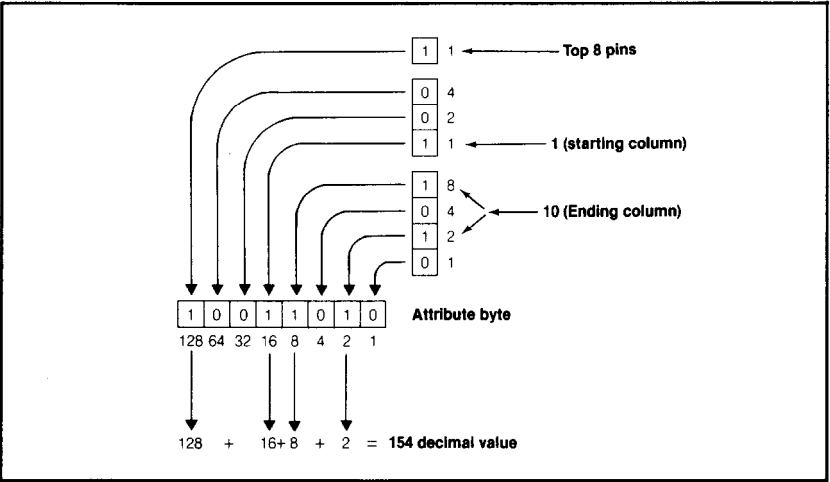

Figure 15-5. Attribute byte conversions
Suppose you want a character to start in column 1 and end in column 10. How do you put this information into the attribute byte? The starting column number (1) is converted to a 3-bit binary number (001) and stored in bits 4, 5, and 6 of the attribute byte. The ending column number (10) is converted to a 4-bit binary number (1010) and stored in bits 0 to 3. The conversions are shown in Figure 15-5.
So the attribute byte constructed in Figure 15-5--CHR\$(154)--uses the top eight pins, starts printing in column 1, and ends in column 10.